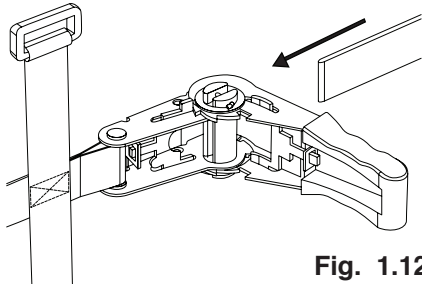

Fig. 1.12
- j. With the Ratchet open, feed the loose end of the strap through the center slot so that the strap is coming towards the top of the ratchet handle (Fig. 1.12). Do this until all the excess strap is through the ratchet center. **Make sure that the strap has not twisted.**